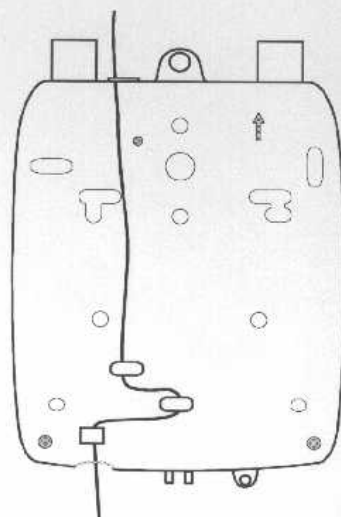
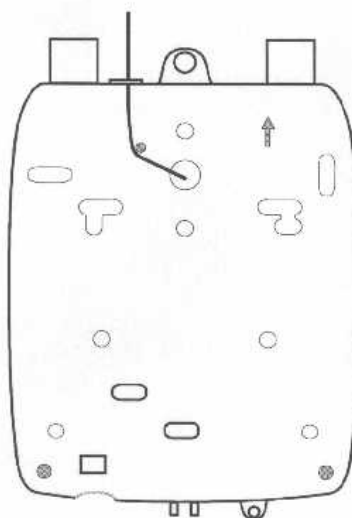

Figure 2-6. Cable Entering Bottom of Mounting Adapter
Figure 2-7. Cable Entering Back of Mounting Adapter
- 7 If the cable was not routed through the "Rear Cable Entry Hole," route the cable through the notch at the bottom of the Mounting Adapter (Figure 2-6. See Figure 2-7).
- 8 To provide maximum strain relief, wrap the cable around the Strain Relief Posts (Figures 2-6 and 2-7).